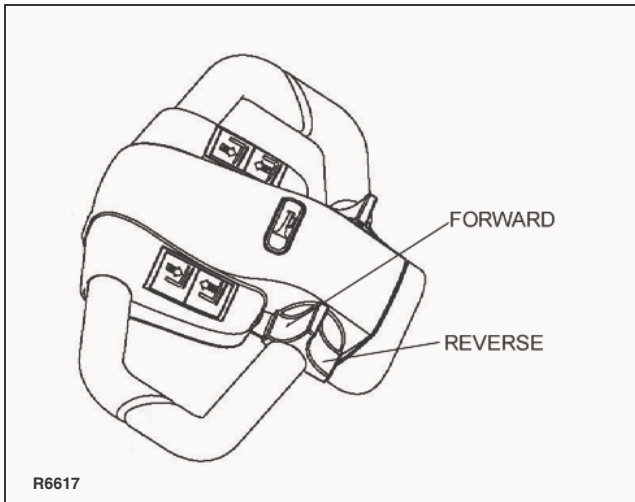

Figure 2-2 Forward/Reverse Control
The speed control (See Figure 2-2) located on each side of the control head provides fingertip control for driving the truck. Rotate the control in the direction you want to travel. The farther you rotate the control from the neutral position, the faster the truck will travel.
3. To move forward (with load in front), slowly press the speed control forward. See Figure 2-2. Press the forward speed control farther to increase speed.
5. Procedures for movement in reverse are the same as in the forward direction except slowly press the speed control backward. See Figure 2-2.